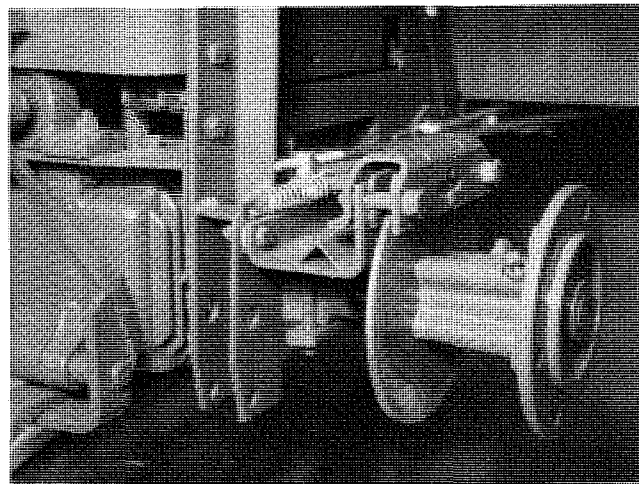

FIGURE 5
Lower the LH caliper unit over the disc and fasten to the mounting bracket with two $\frac{1}{2}$ x $1\frac{1}{2}$ shoulder bolts (4). (See Fig. 5). If the brakes are too tight, minor adjustments can be made by sliding the hub in or out. Then tighten the hub on the axle.
Attach springs as shown in Fig. 5.